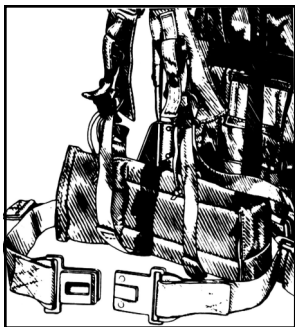

Figure 8-26: Back Strap
**Attaching and Adjusting the Lower Back Strap to Pack Frame.** The lower back strap (Figure 8-26) keeps the load away from your back and lets air circulate between your back and the load. The strap should be loose enough to curve in and fit against the lower part of your back. To attach the lower back strap: